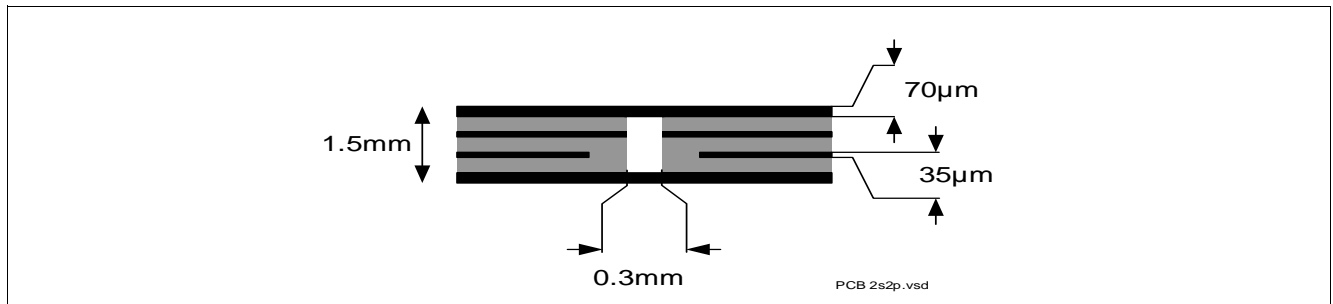

Figure 2 2s2p PCB Cross Section
2) Specified R_{thja} value is according to JEDEC JESD51-2,-5,-7 at natural convection on FR4 2s2p board; The product (chip + package) was simulated on a 76.4 x 114.3 x 1.5 mm board with 2 inner copper layers (2 x 70µm Cu, 2 x 35 µm Cu). Where applicable, a thermal via array under the exposed pad contacts the first inner copper layer. Please refer to Figure 2.